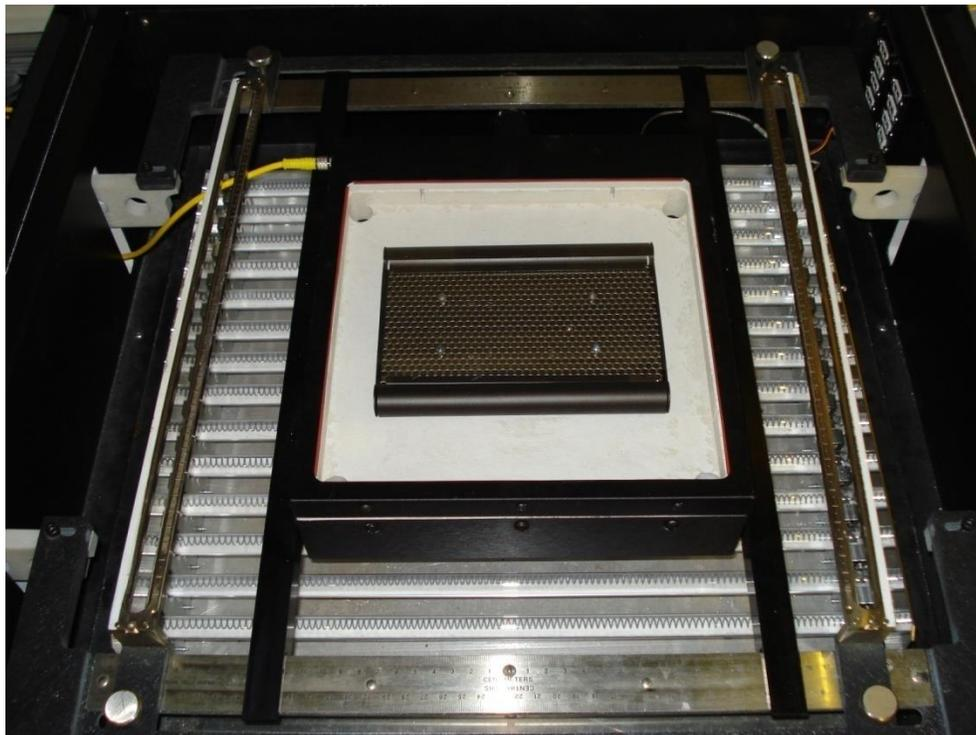

Figure 2.1 CM200 Sample Chamber installed in PS400
13. Open the oven lid and place the Sub Room Temperature Module inside the sample support frame as shown in **Figure 2.1**.
15. If sub-room temperature testing will be performed, connect the Lid Defrost Power Cable to the Lid Defrost Power Connector through the gap beneath the left rear oven support arm (see **Figure 2.1**).